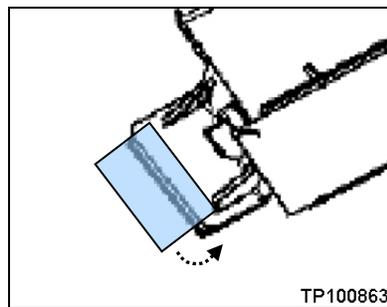

Figure 5
- Wrap the felt cloth tape even length around the ends of the side tabs (see Figure 5).